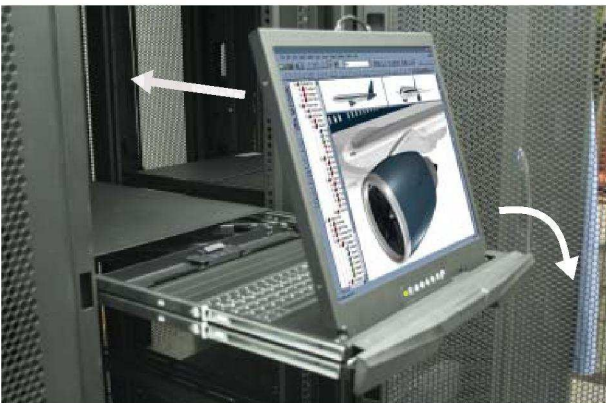

Figure 3. Flipping down the front panel and pushing the upper open LCD drawer in the rack.
- Flip down the front panel. Then gently push the upper open LCD drawer in the rack (shown in Figure 3).